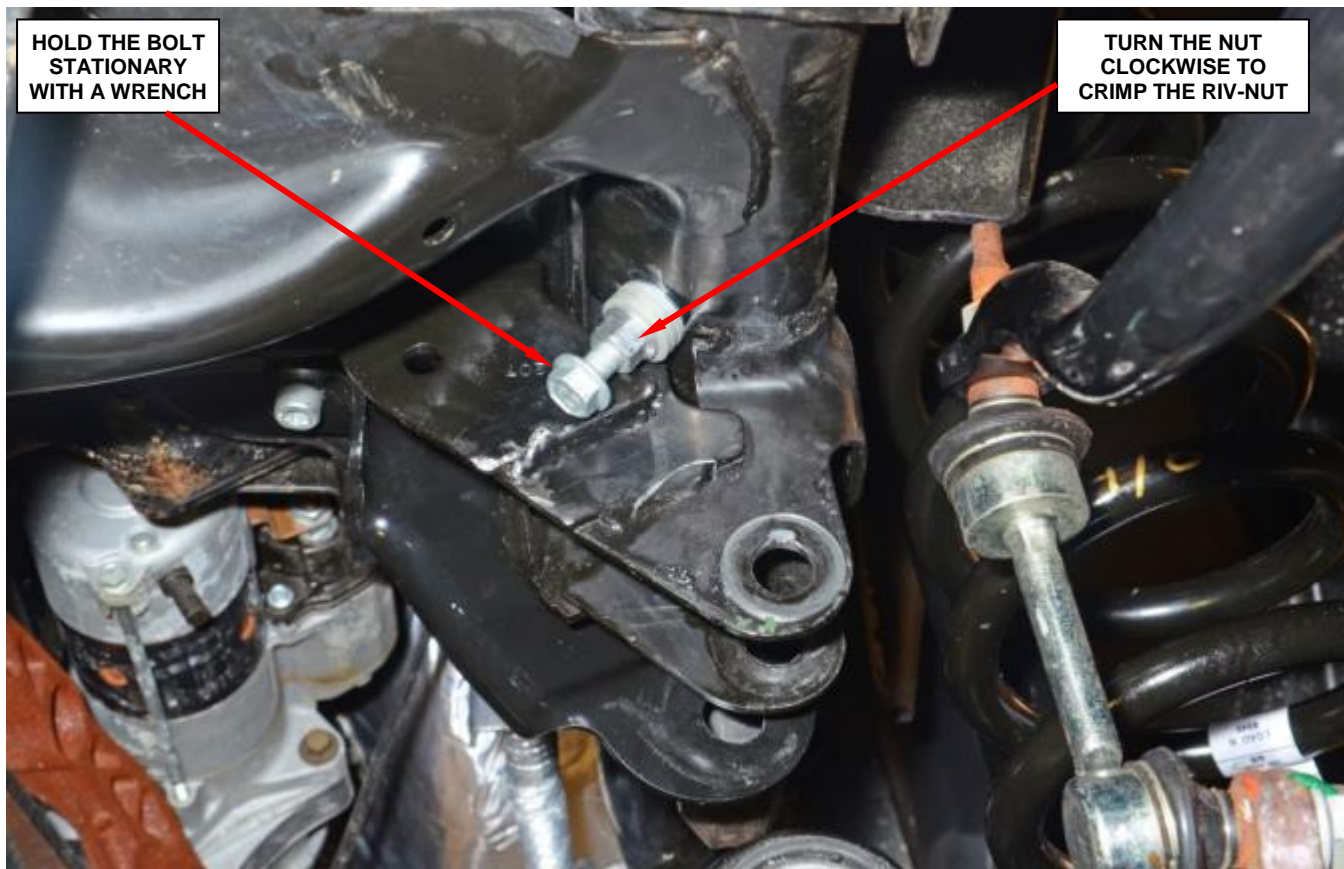

Figure 28 – Riv-Nut Crimp Tool Use (typical)
5. Using two wrenches, hold the bolt stationary with one wrench and tighten the nut with the other wrench until the riv-nut is crimped into position (Figure 28).